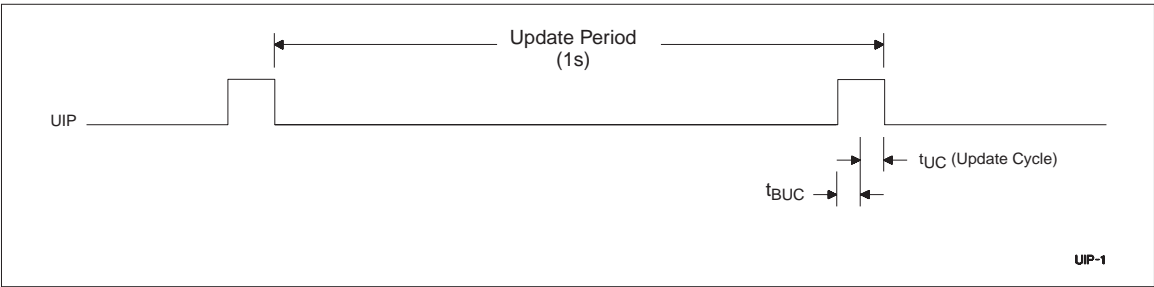

Figure 2. Update Period Timing and UIP
date period (see Figure 2). The alarm flag bit may also be set during the update cycle.
The update-in-progress bit (UIP) in register A is set t_{BUC} time before the beginning of an update cycle (see Figure 2). This bit is cleared and the update-complete flag (UF) is set at the end of the update cycle.